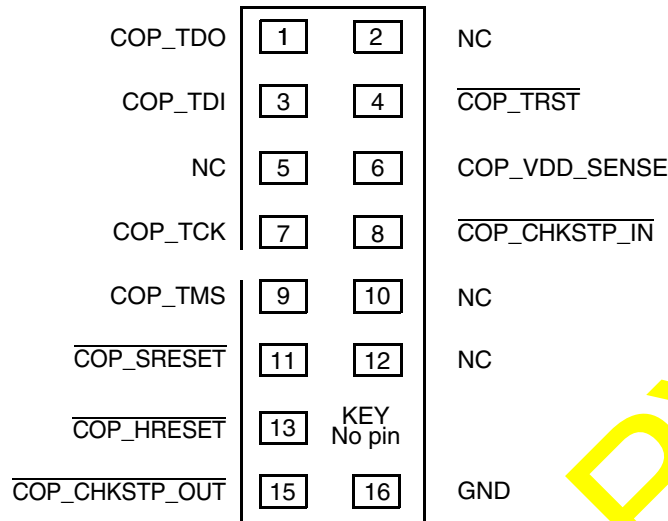

Figure 69. COP Connector Physical Pinout
Correct operation of the JTAG interface requires configuration of a group of system control pins as demonstrated in Figure 69. Care must be taken to ensure that these pins are maintained at a valid deasserted state under normal operating conditions as most have asynchronous behavior and spurious assertion will give unpredictable results.
The arrangement shown in Figure 69 allows the COP port to independently assert  $\overline{\text{HRESET}}$  or  $\overline{\text{TRST}}$ , while ensuring that the target can drive  $\overline{\text{HRESET}}$  as well.
The COP interface has a standard header, shown in Figure 69 for connection to the target system, and is based on the 0.025" square-post, 0.100" centered header assembly (often called a Berg header). The connector typically has pin 14 removed as a connector key.
There is no standardized way to number the COP header; consequently, many different pin numbers have been observed from emulator vendors. Some are numbered top-to-bottom then left-to-right, while others use left-to-right then top-to-bottom, while still others number the pins counter clockwise from pin 1 (as with an IC). Regardless of the numbering, the signal placement recommended in Figure 69 is common to all known emulators.
- $\overline{\text{TRST}}$  should be tied to  $\overline{\text{HRESET}}$  through a 0 k $\Omega$  isolation resistor so that it is asserted when the system reset signal ( $\overline{\text{HRESET}}$ ) is asserted, ensuring that the JTAG scan chain is initialized during the power-on reset flow. Freescale recommends that the COP header be designed into the system as shown in Figure 69. If this is not possible, the isolation resistor will allow future access to  $\overline{\text{TRST}}$  in case a JTAG interface may need to be wired onto the system in future debug situations.